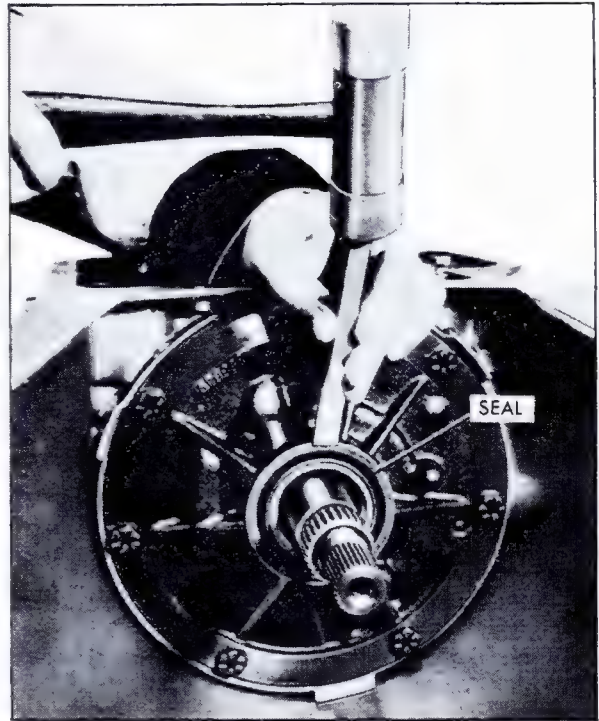

Fig. 7-40 Removing Pump Oil Seal
2. Use hammer to drive screwdriver or chisel under lip of oil seal and pry seal out of pump body, Fig. 7-40.